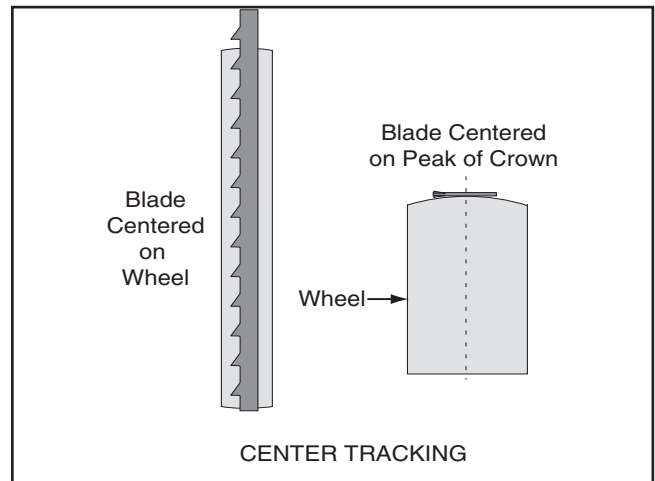

Figure 29. Center tracking profiles.
5. Spin the upper wheel by hand at least three times and watch how the blade rides on the crown of the wheel. Refer to **Figure 29** for an illustration of this concept.